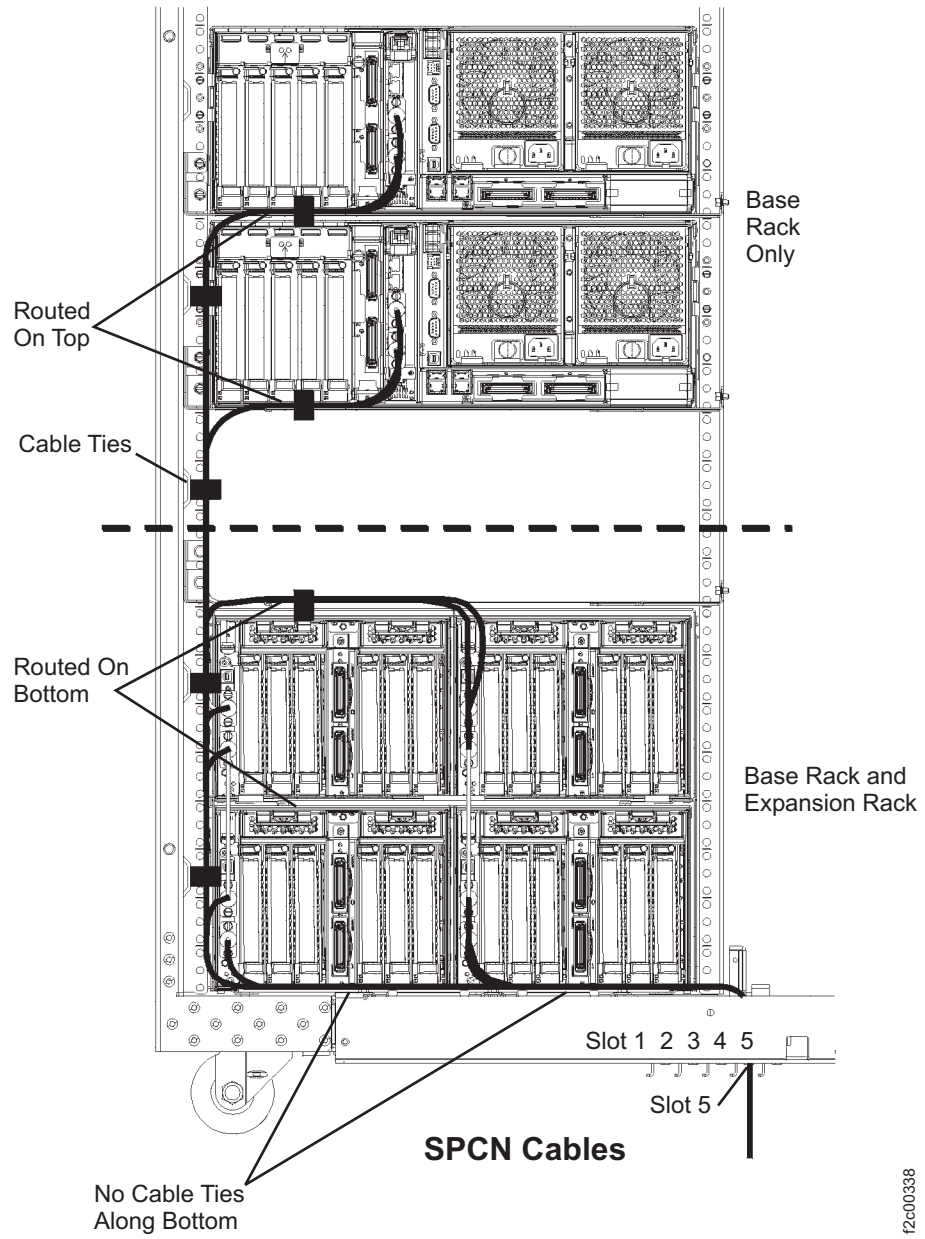

Figure 29. SPCN cable routing (early version of tailgate)
- For cable routing inside of the rack, see Figure 29 on page 33.
- If you have the earlier version of the tailgate (all five cable slots on the right end of the tailgate), route all SPCN cables through slot 5. See Figure 29 on page 33.